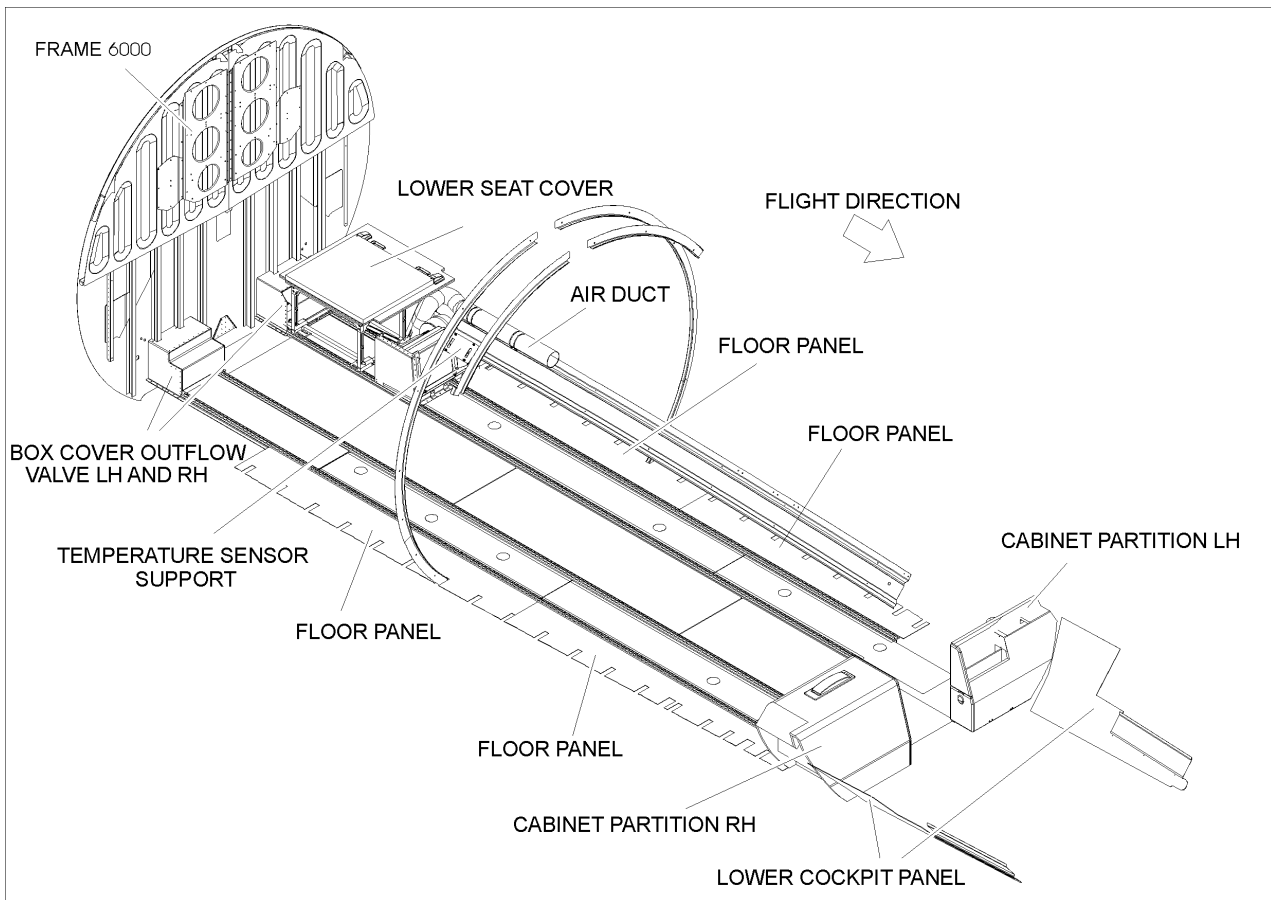

Fig. 21 - FERRY FLIGHT - Configuration
V. The option "FERRY FLIGHT CONFIGURATION" - (Piaggio Kit P/N 80KV00002) passenger compartment (Ref. to Fig. 21).